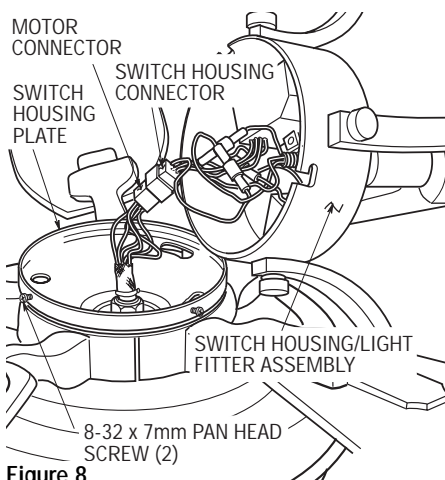

Figure 8
- 11. Engage the connector of the switch housing/light fitter assembly with the motor connector (Figure 8). The two connectors are color-coded and must be mated correctly (color-to-color) before they can be engaged. Make sure the connectors close properly.
- 12. Partially install two 8-32 x 7mm pan head screws (supplied) into two of the threaded holes in the side of the switch housing plate (Figure 8).